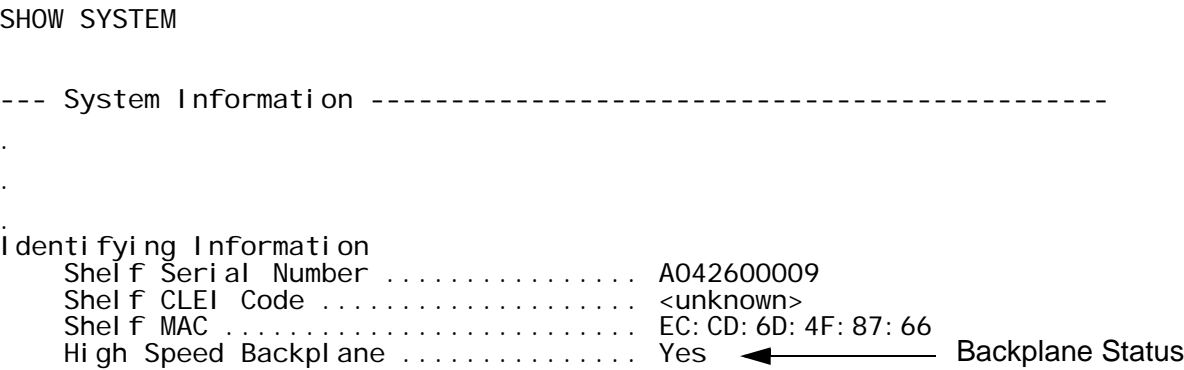

Figure 153. Verifying the Backplane Version with the SHOW SYSTEM Command
- ❑ Start a local or remote management session with the switch, issue the SHOW SYSTEM command, and examine the state of the “High Speed Backplane” parameter. An example is shown in Figure 153. If the parameter displays “Yes,” the backplane in the chassis supports two AT-SBx31CFC960 Controller Cards. If the parameter displays “No,” the chassis has an old backplane and does not support two controller cards. If you see this, contact Allied Telesis technical support or your sales representative for assistance.